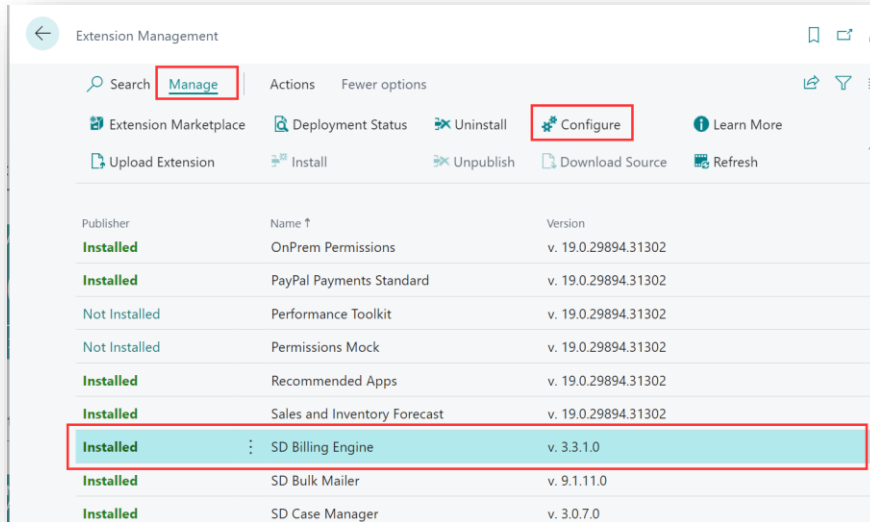

Figure 4-4
3. Select the **SD Billing Engine** App record and from the action bar, select the **Manage** group, and choose **Configure** (Figure 4-4).